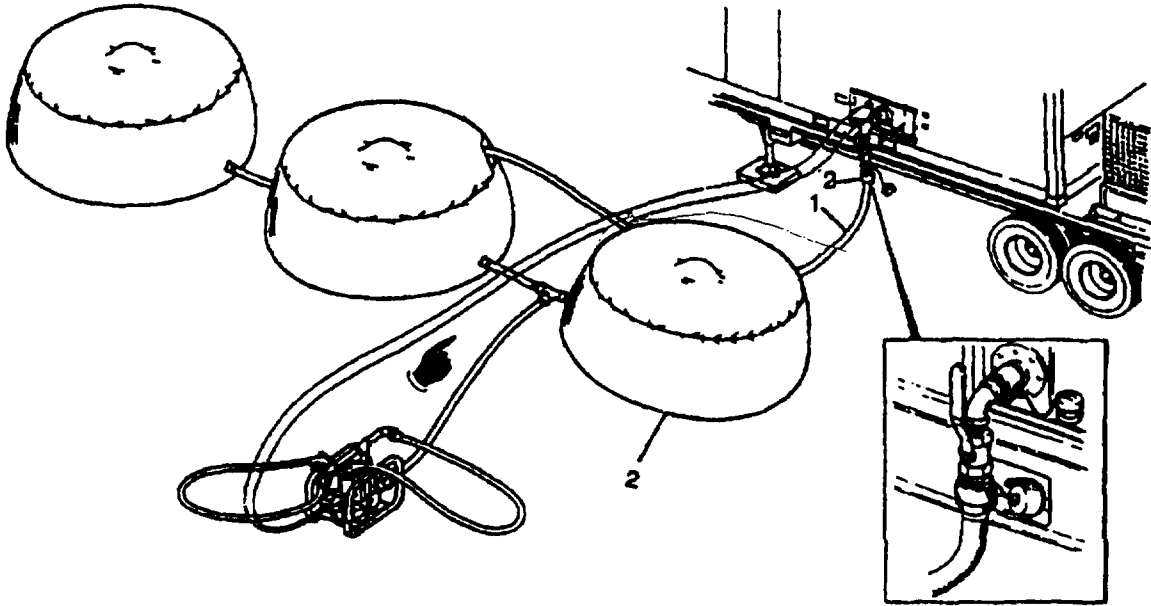

Figure 2-47. Potable Water to Storage Connections
d. Direct Potable Water to Storage (Figure 2-47).
- (1) The TDS meter is designed for use with water temperatures of 50°F (10°C) and above. If water being tested is below 50°F, then reading obtained must be adjusted. Use water temperature along base of graph (Table 2-22.1) to obtain the multiplier on the left side of the graph. Multiply reading by the multiplier obtained to correct the reading for temperature. (Example: 35°F = 1.08 multiplier, 41°F = 1.05 multiplier.)